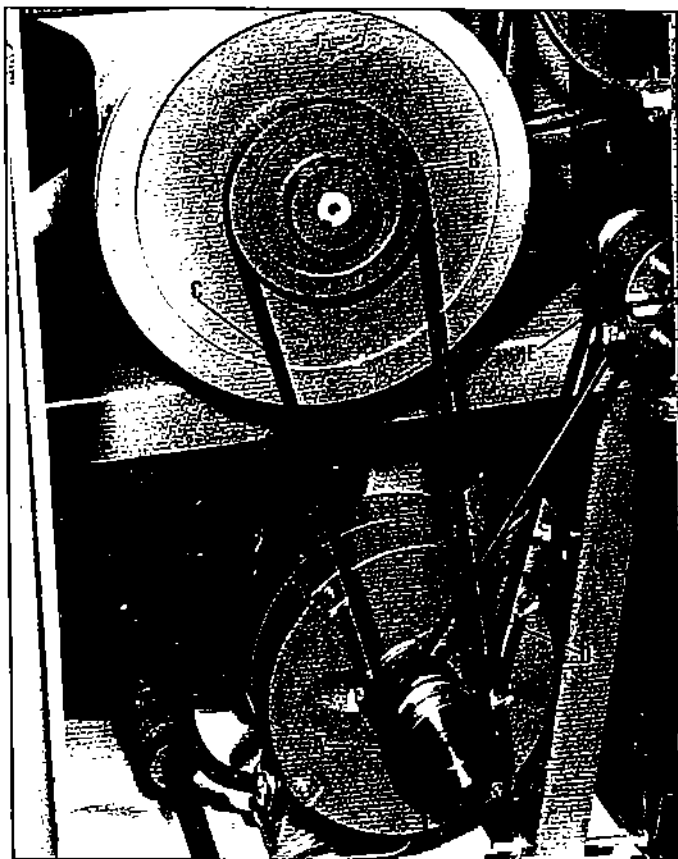

Fig. 2
1. Assemble the motor to the motor plate, as shown in Fig. 2.
2. Assemble the motor pulley (A) Fig. 2, to the motor shaft, with the outside groove of the motor pulley aligned with the high-speed pulley (B), and tighten the set screw that holds the motor pulley to the motor shaft.
3. Assemble the belt (C) to the two pulleys, as shown in Fig. 2, and adjust belt tension as explained under ADJUSTING BELT TENSION.
4. The "O" ring belt (D) Fig. 2, is shown assembled to the chip blower (E), which is available as an accessory, and to the round groove of the motor pulley.